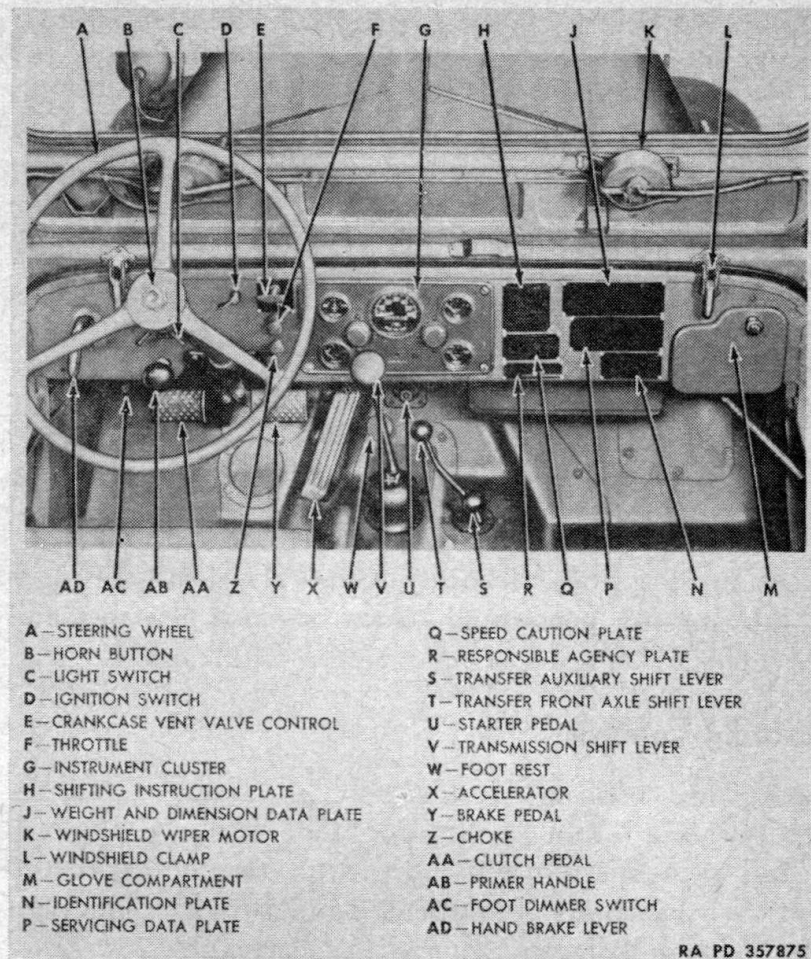

Figure 5. Instruments and controls.
The parking or hand brake is operated by a handle located at the left of the instrument panel (fig. 5). A mechanical brake on the rear propeller shaft is actuated by pulling the handle outward from the instrument panel. A ratchet holds the lever in a vertical position until released by a quarter turn of the handle, allowing it to return to its original position.
The crankcase vent valves control (fig. 5) permits the sealing of the crankcase for underwater operation when handle is pulled out.
- a. Put transmission gear shift lever in neutral position (fig. 5).
- (1) Place transfer right-hand shift lever in rear position to engage the "high" range. Then place center shift lever in forward position to disengage the front axle (fig. 5).
- (2) Depress clutch pedal and move the transmission shift lever
toward the driver and backward to engage low (1st) gear (fig. 5).
- (1) When approaching a hill or stretch of soft terrain, shifting of gears to lower speeds may be accomplished without grinding of gears by "double-clutching."
- (2) Shift to a lower gear before the engine begins to labor. The following operations must be accomplished in sequence and as rapidly as possible to avoid unnecessary loss of vehicle speed.
- (3) Depress clutch pedal and quickly move transmission gear shift lever into neutral position.
- (4) Engage clutch pedal and accelerate engine to slightly more than the speed needed to maintain same vehicle speed in the gear being selected. This speeds up the drive gear to match the speed of the driven gear in the transmission.
- (5) Quickly depress clutch; move shift lever to desired (next lower) position; engage clutch; and accelerate engine to suit vehicle speed desired. The engine need not be decelerated for the latter operations. When the two mating gears engage at identical speeds, no clutch slippage will occur.
**c. SHIFTING GEARS IN TRANSFER (fig. 5).** The transfer provides a means by which power may be applied to the front axle as well as the rear. In addition, the low-range gear provided by the transfer doubles the number of speeds provided by the transmission. The